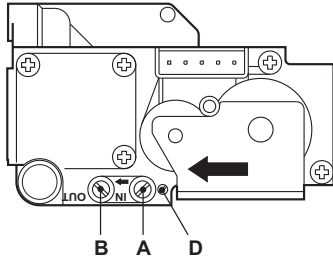

fig. 10 - Gas valve
- Connect a suitable pressure gauge to pressure point "B" fig. 10 downstream of the gas valve
- Adjust the minimum pressure with the screw "D" fig. 10, clockwise to decrease it and anticlockwise to increase it.